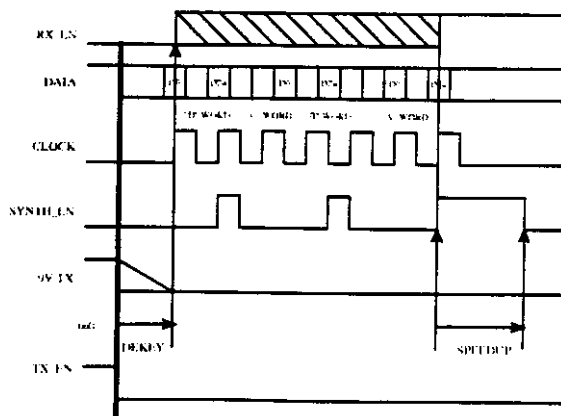

Figure 3-6 TX TO RX TIMING DIAGRAM
1. TX_EN is turned OFF. For best TX adjacent channel power performance this could be shaped. Refer to Figure 3-6.